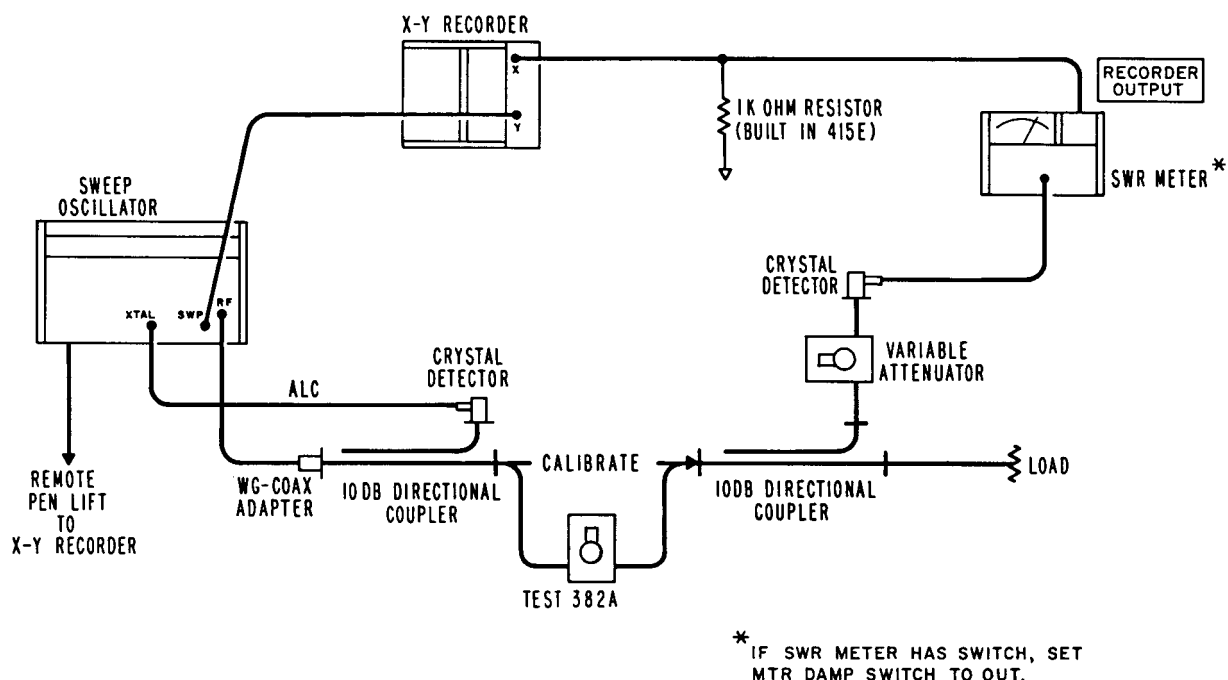

Figure 3 *Residual Attenuation Setup*
This test measures the minimum loss introduced into a system by the use of the 382A variable attenuator under test. Using the setup of Figure 3 proceed as follows:
1. Connect instruments as shown in Figure 3 on page 11.
The dial will need resetting if a new dial is installed, if the stops have been forced hard, or if the dial has slipped. To reset the dial connect as in Figure 3 on page 11 and proceed as follows: